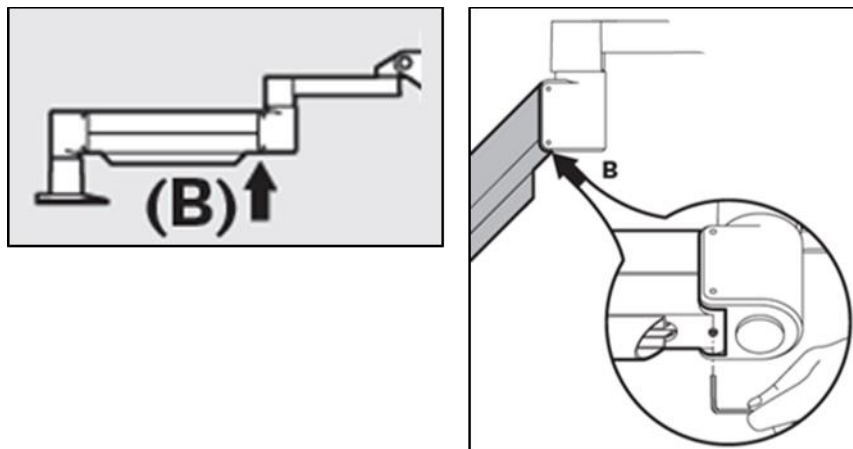

Figure 4-6. Loosen Counterbalance Set Screw B
- Reposition the arm horizontally. Loosen the upper Counterbalance Set Screw B by turning the screw at least a ½ turn. Use a 3/32 Allen Wrench. See Figure 4-6.
- Position the arm horizontally and tighten Counterbalance Set Screw B until contact is made, then tighten $\frac{1}{2}$ to $\frac{3}{4}$ revolutions. See Figure 4-6.